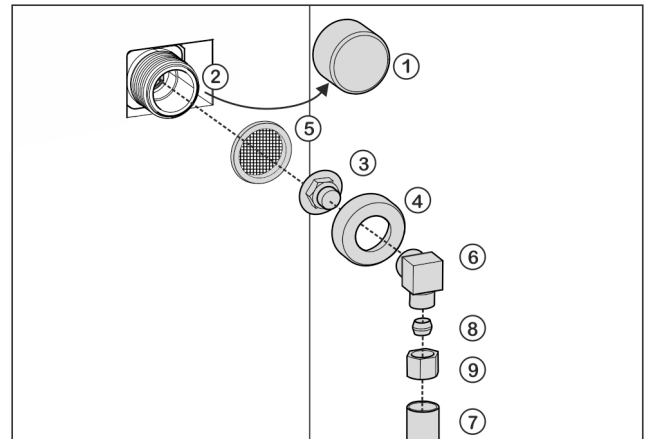

Fig. 25
- ▶ Remove cap *Fig. 25 (1)* from solenoid valve *Fig. 25 (2)*.
- ▶ Insert coupler *Fig. 25 (3)* into union nut *Fig. 25 (4)*.
- ▶ Insert the filter *Fig. 25 (5)* with the recess pointing down towards the coupler *Fig. 25 (3)*.
- ▶ Screw the union nut *Fig. 25 (4)* by hand onto the thread of the solenoid valve *Fig. 25 (2)* until it is firmly in place.
- ▶ Screw on angle piece *Fig. 25 (6)*.
- ▶ Connect the water pipe *Fig. 25 (7)* (e. g. 1/4" OD copper pipe) with the clamp ring *Fig. 25 (8)* and nut *Fig. 25 (9)* to the elbow connector *Fig. 25 (6)*.
- ▶ If necessary: Fasten the water pipe *Fig. 25 (7)* to the housing with the guide clip.
- ▶ Put angle piece *Fig. 25 (6)* to one side.
- ▶ Connect the water pipe *Fig. 25 (7)* (e. g. 1/4" OD copper pipe) with the clamp ring *Fig. 25 (8)* and nut *Fig. 25 (9)* to the coupler *Fig. 25 (3)*.